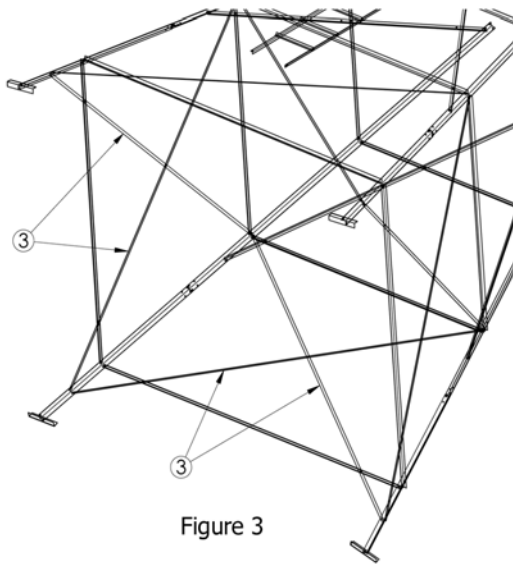

Figure 3
13. Attach the (J) Feet as shown. (Fig 3)